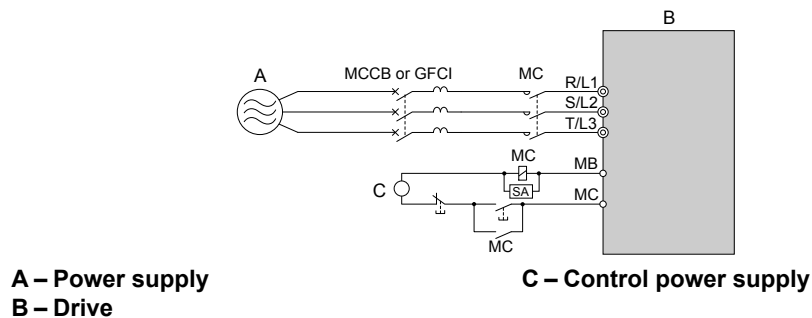

Figure 6.2 Power Supply Interrupt Wiring (Example)
- If several drives are connected to one MCCB or GFCI that is shared with other equipment, use a sequence that shuts the power OFF when errors are output by using magnetic contactor (MC) as shown in Figure 6.2.